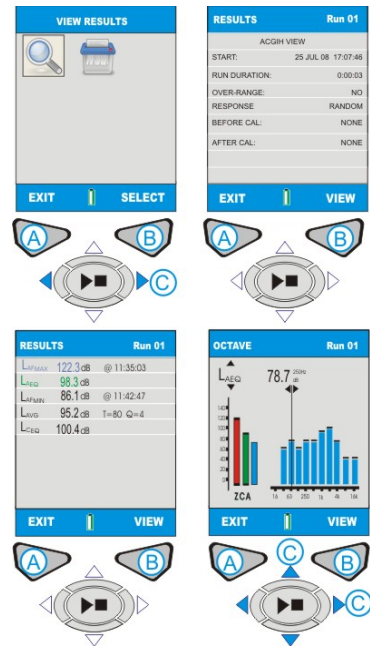

Figure 10 Memory Screens.
From MENU screen, use cursor keys (C) to select MEMORY RESULTS (1) and press (B) to continue. Use cursor keys (C) to select a Memory Result. Press (B) to select measurement. Use cursor keys (C) to select VIEW (See Figure 10 over page). Press SELECT (B) to continue. The selected Memory Results are displayed. For additional data press VIEW (B).
This screen displays detailed specific data for the saved Memory Results (Figure 10). This is read only data. To view this data in a graphical format, press View (B). The Octave values saved in the Memory Results are displayed in a graphical format. Use cursor keys (C) to move the vertical line across the graph. Each graph bar represents an octave level measured in Hz or KHz. Press View (B) again to view tabular octave results.